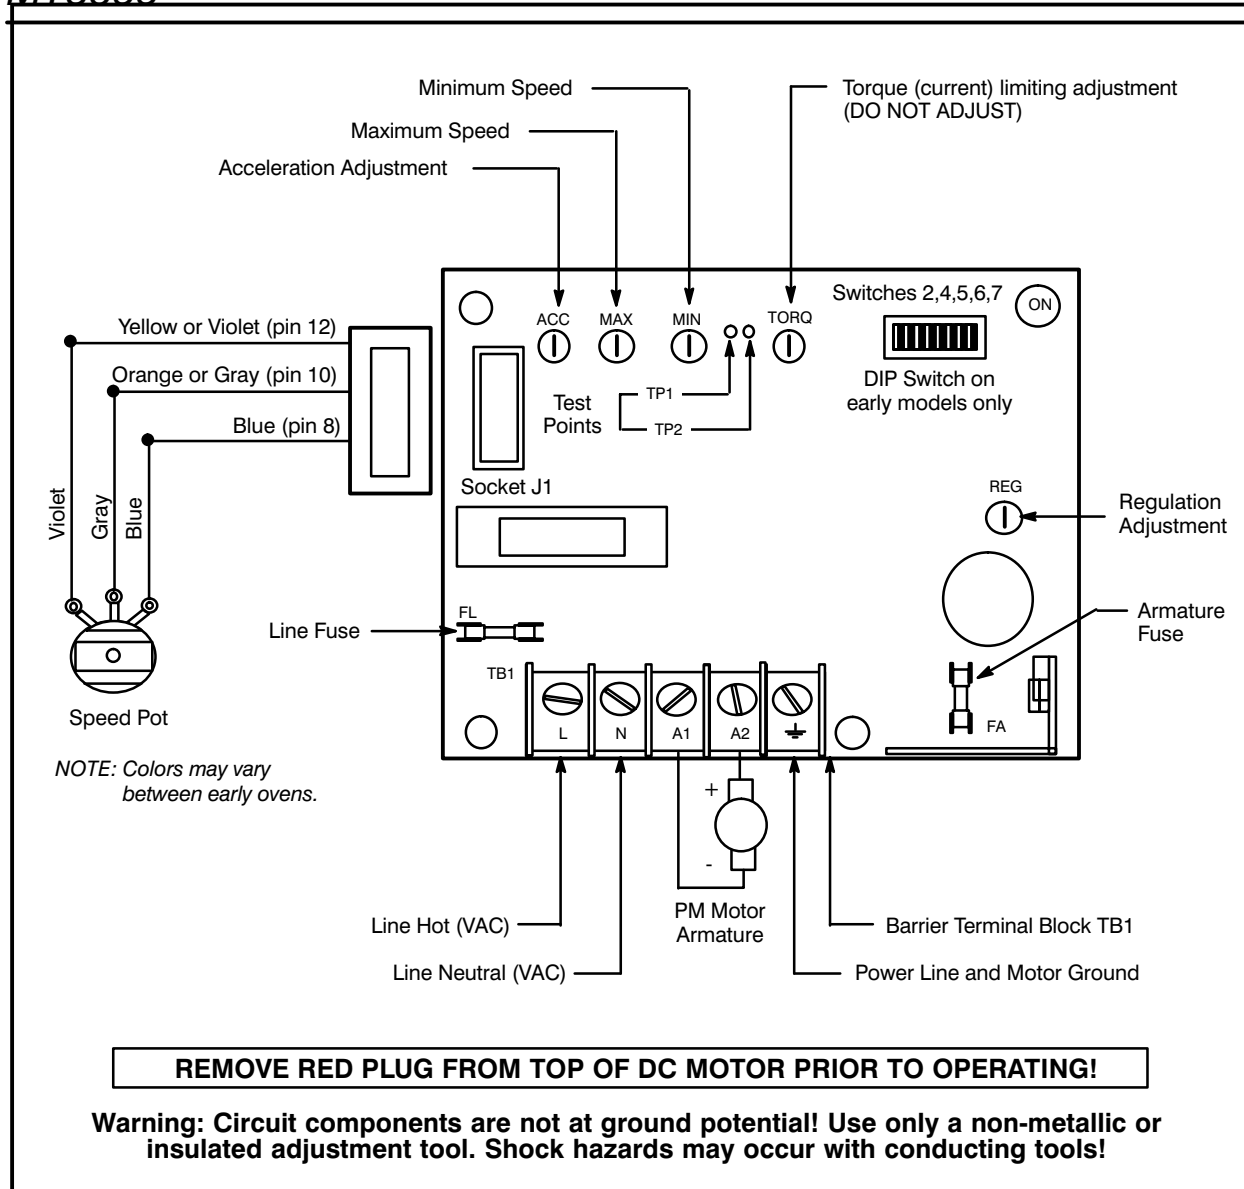

FIGURE 3
1. With the motor connected (make no open circuit voltage readings) measure the voltage at the motor leads (A1 & A2 in FIGURE 3) on the DC control board. If the voltage is not within 3 VDC of the specified voltage continue with step 3.
1. With the motor connected (make no open circuit voltage readings) measure the voltage at the motor leads on the DC control board (A1 & A2 in FIGURE 3). If the voltage is not 26VDC +/- 1 VDC, continue with step 3.